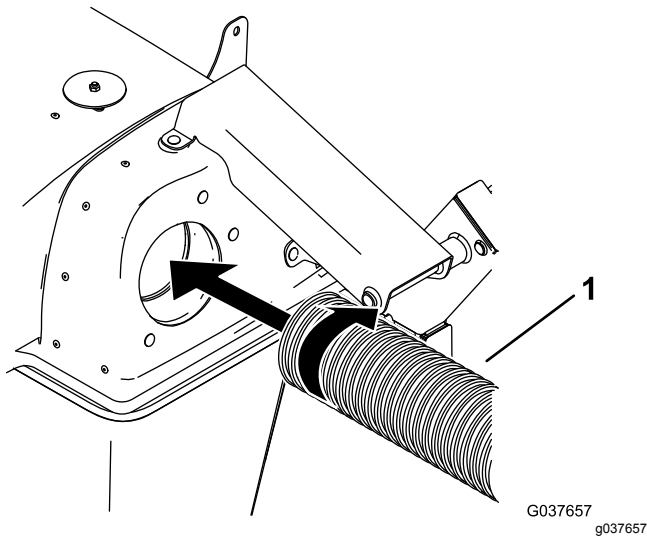

Figure 19
1. Thread 1 end of the tube into the hood until it forms approximately a 90-degree bend from the blower and is secure (Figure 19).